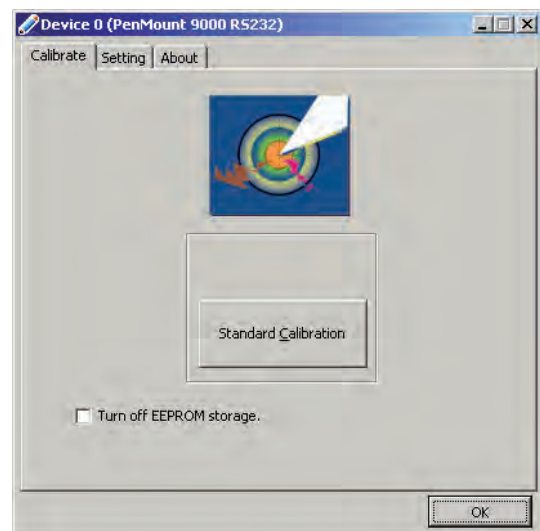

Figure 71
7. Press the “Standard Calibration” button (Figure 71).